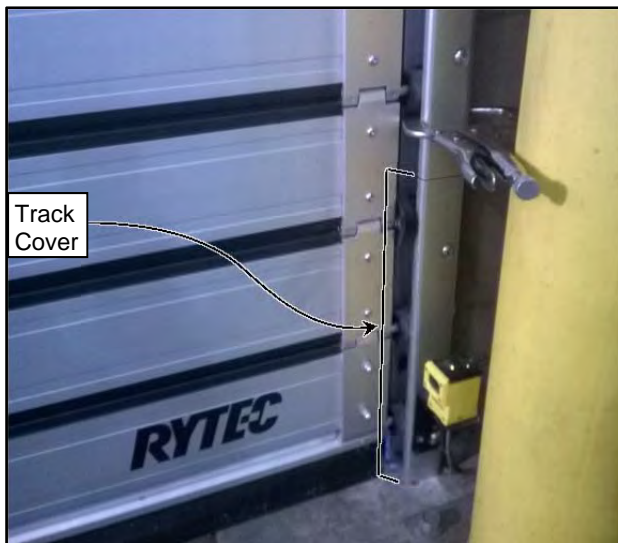

Figure 47
4. Position C-clamp vice grip clamps along both edges of the door above the bottom Lower Track Assembly track cover to be removed to prevent unexpected door movement as shown. Use as many clamps as necessary to adequately hold the door panel in place. (See Figure 47)